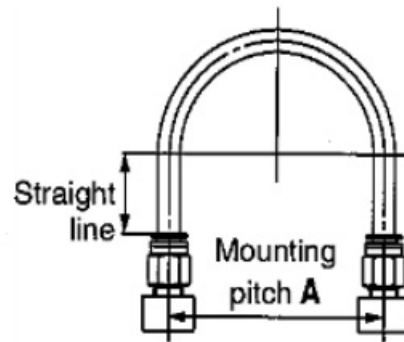
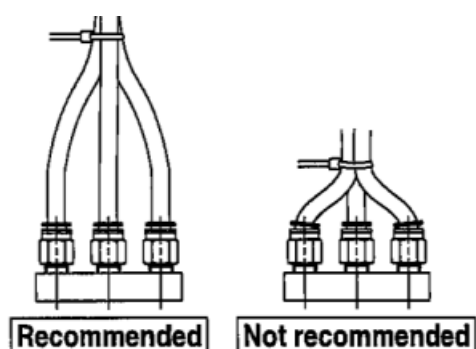

Figure 1 Recommended piping
Fig. 2 When using a tying band to bind the piping together
1. When connecting piping to the One-touch fitting, use a pipe length with sufficient margin, in accordance with the piping conditions shown in Figure 1. Also, when using a tying band, etc., to bind the piping together, make sure that external force does not come to bear on the fitting. (see Figure 2)